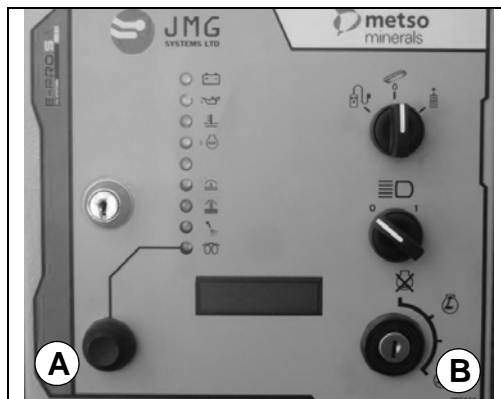

Figure 5.6 Starting the engine
1. Stop the diesel engine by turning the key switch to “OFF” position (B, Figure 5.6).